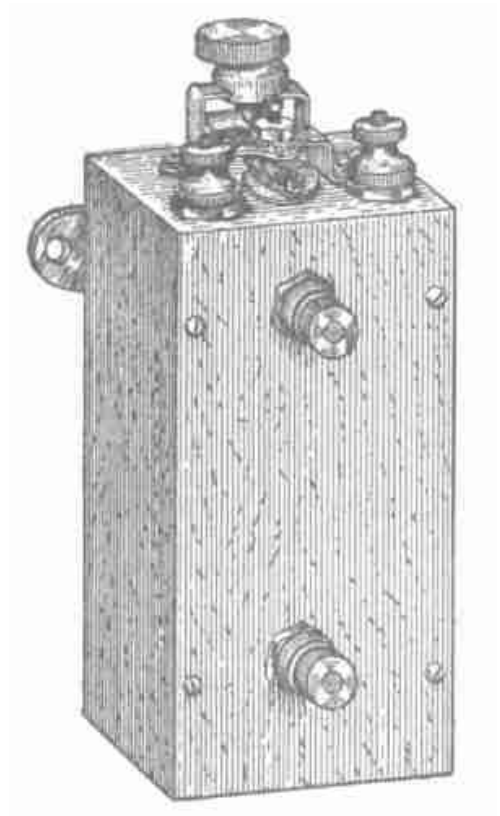

Fig. 63
24. *Spark Coil* (Fig. 63).—The automobile spark coil which we have already used is an electro-magnet. The battery sends a current through wire coiled around an iron core. At one end of this iron core is an iron armature which is made to vibrate in precisely the same manner as the armature of an electric bell. This makes and breaks the current and causes rapid changes in the strength of the field. A rapidly changing magnetic field may be used to develop electricity in a conductor, as we have already seen in the case of the dynamo.